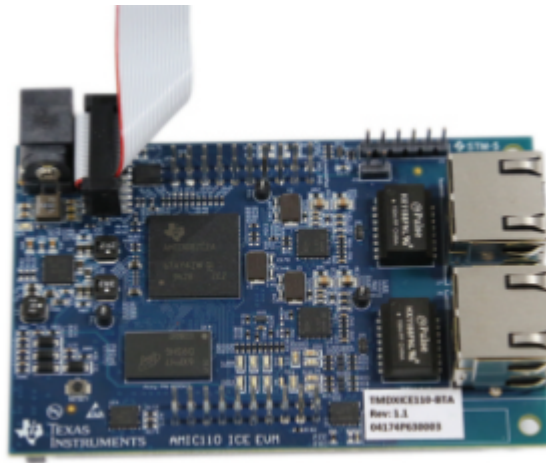

Figure 2. AMIC110 ICE JTAG Connection
2. Connect a 20-pin JTAG emulator to J1 on the AMIC110 ICE (see Figure 2) to download a bootable image to the onboard SPI Flash. For example, XDS100 or XDS200 emulators may be used for this purpose and are available at XDS110 and XDS200.